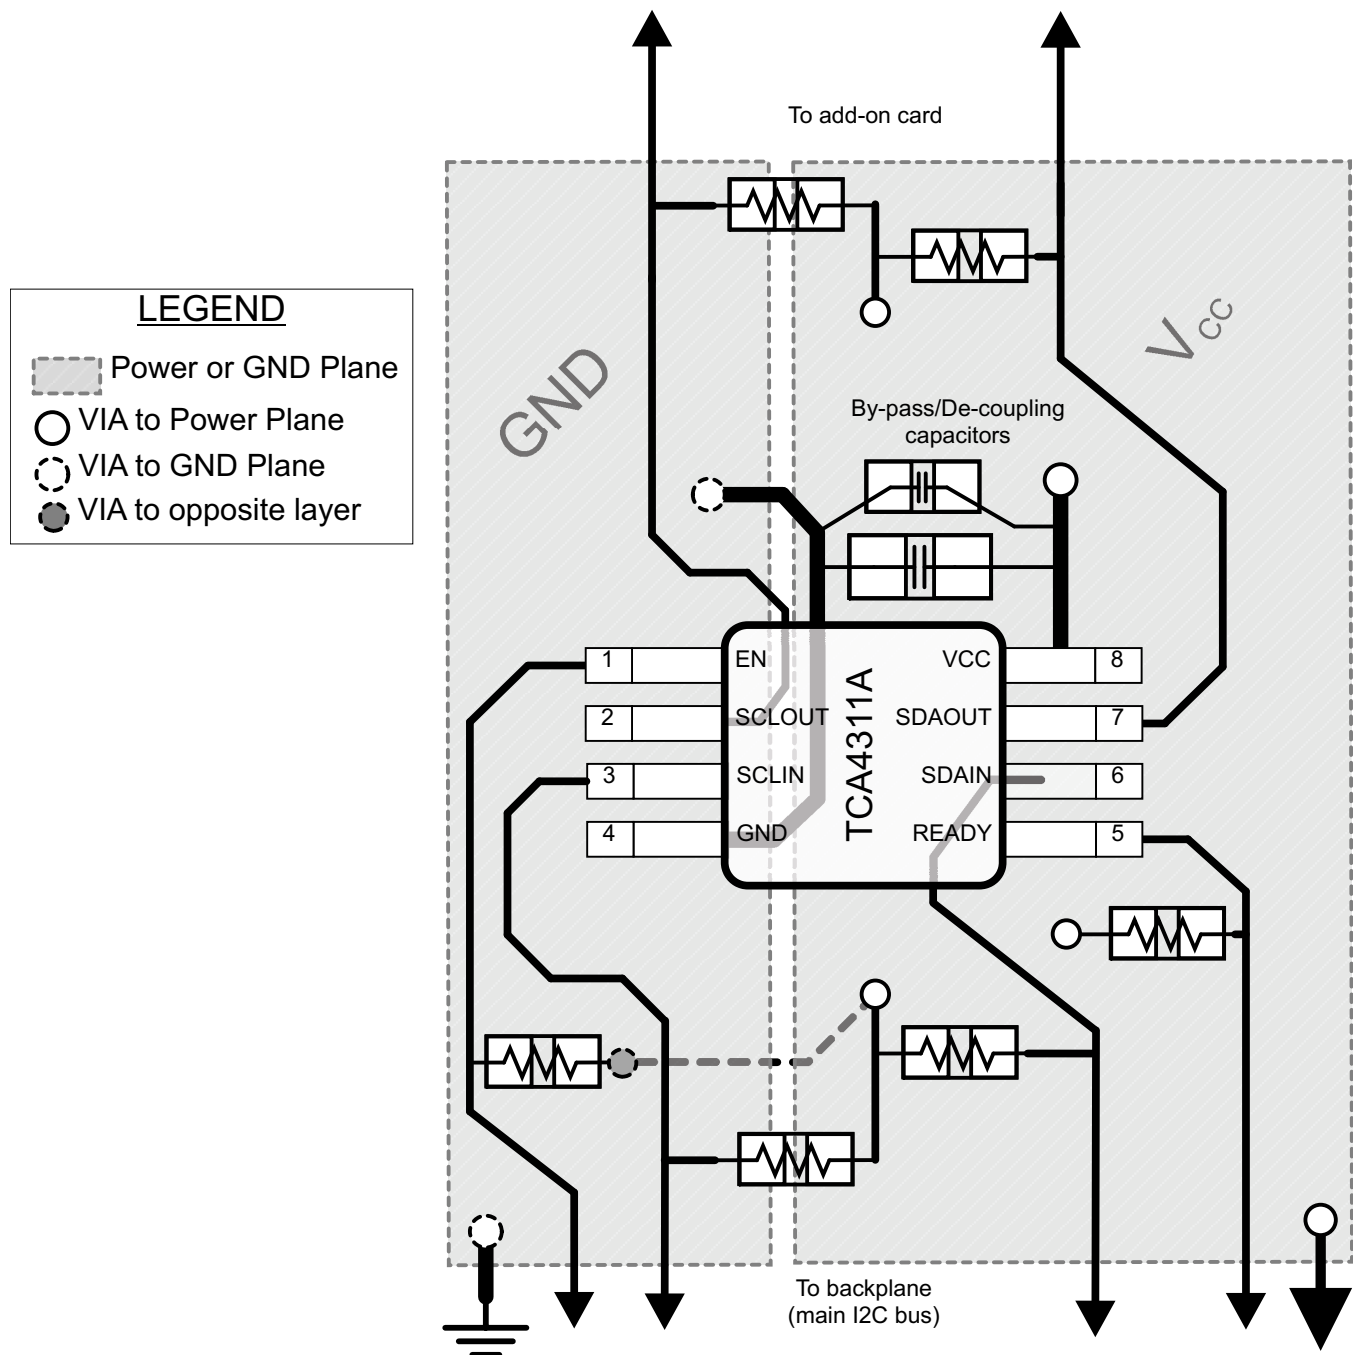

Figure 15. Package Layout
In all PCB layouts, it is a best practice to avoid right angles in signal traces, to fan out signal traces away from each other upon leaving the vicinity of an integrated circuit (IC), and to use thicker trace widths to carry higher amounts of current that commonly pass through power and ground traces. By-pass and de-coupling capacitors are commonly used to control the voltage on the VCC pin, using a larger capacitor to provide additional power in the event of a short power supply glitch and a smaller capacitor to filter out high-frequency ripple. These capacitors should be placed as close to the TCA4311A as possible. These best practices are shown in Figure 15.
The layout example provided in Figure 15 shows a 4 layer board, which is preferable for boards with higher density signal routing. On a 4 layer PCB, it is common to route signals on the top and bottom layer, dedicate one internal layer to a ground plane, and dedicate the other internal layer to a power plane. In a board layout using planes or split planes for power and ground, vias are placed directly next to the surface mount component pad which needs to attach to V_{CC} or GND and the via is connected electrically to the internal layer or the other side of the board. Vias are also used when a signal trace needs to be routed to the opposite side of the board, shown in Figure 15 for the V_{CC} side of the resistor connected to the EN pin; however, this routing and via is not necessary if V_{CC} and GND are both full planes as opposed to the partial planes depicted.